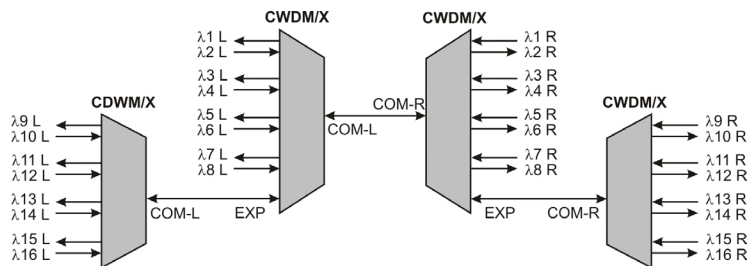

Figure 4: Two Cascaded 4-Channel MUX/DEMUX Modules
The optional Expansion Port (EXP) enables the cascading of two CWDM/X modules as shown in Figure 4. The Expansion Port supports the cascading of two 4-Channel modules or the cascading of a 4-Channel module with a 2-Channel module by connecting to the Common Port of another CWDM/X module. When cascading, make sure the wavelengths of the Channel Ports on each module are unique and not duplicated.
4. When cascading two 4-Channel CWDM/X modules or a 4-Channel and a 2-Channel, connect a single-mode single-fiber simplex LC cable between the Common Port on one CWDM/X module and the Expansion Port on the other CWDM/X module (see Figure 4). Ensure that the wavelengths of the Channel Ports on the CWDM/X modules are unique.